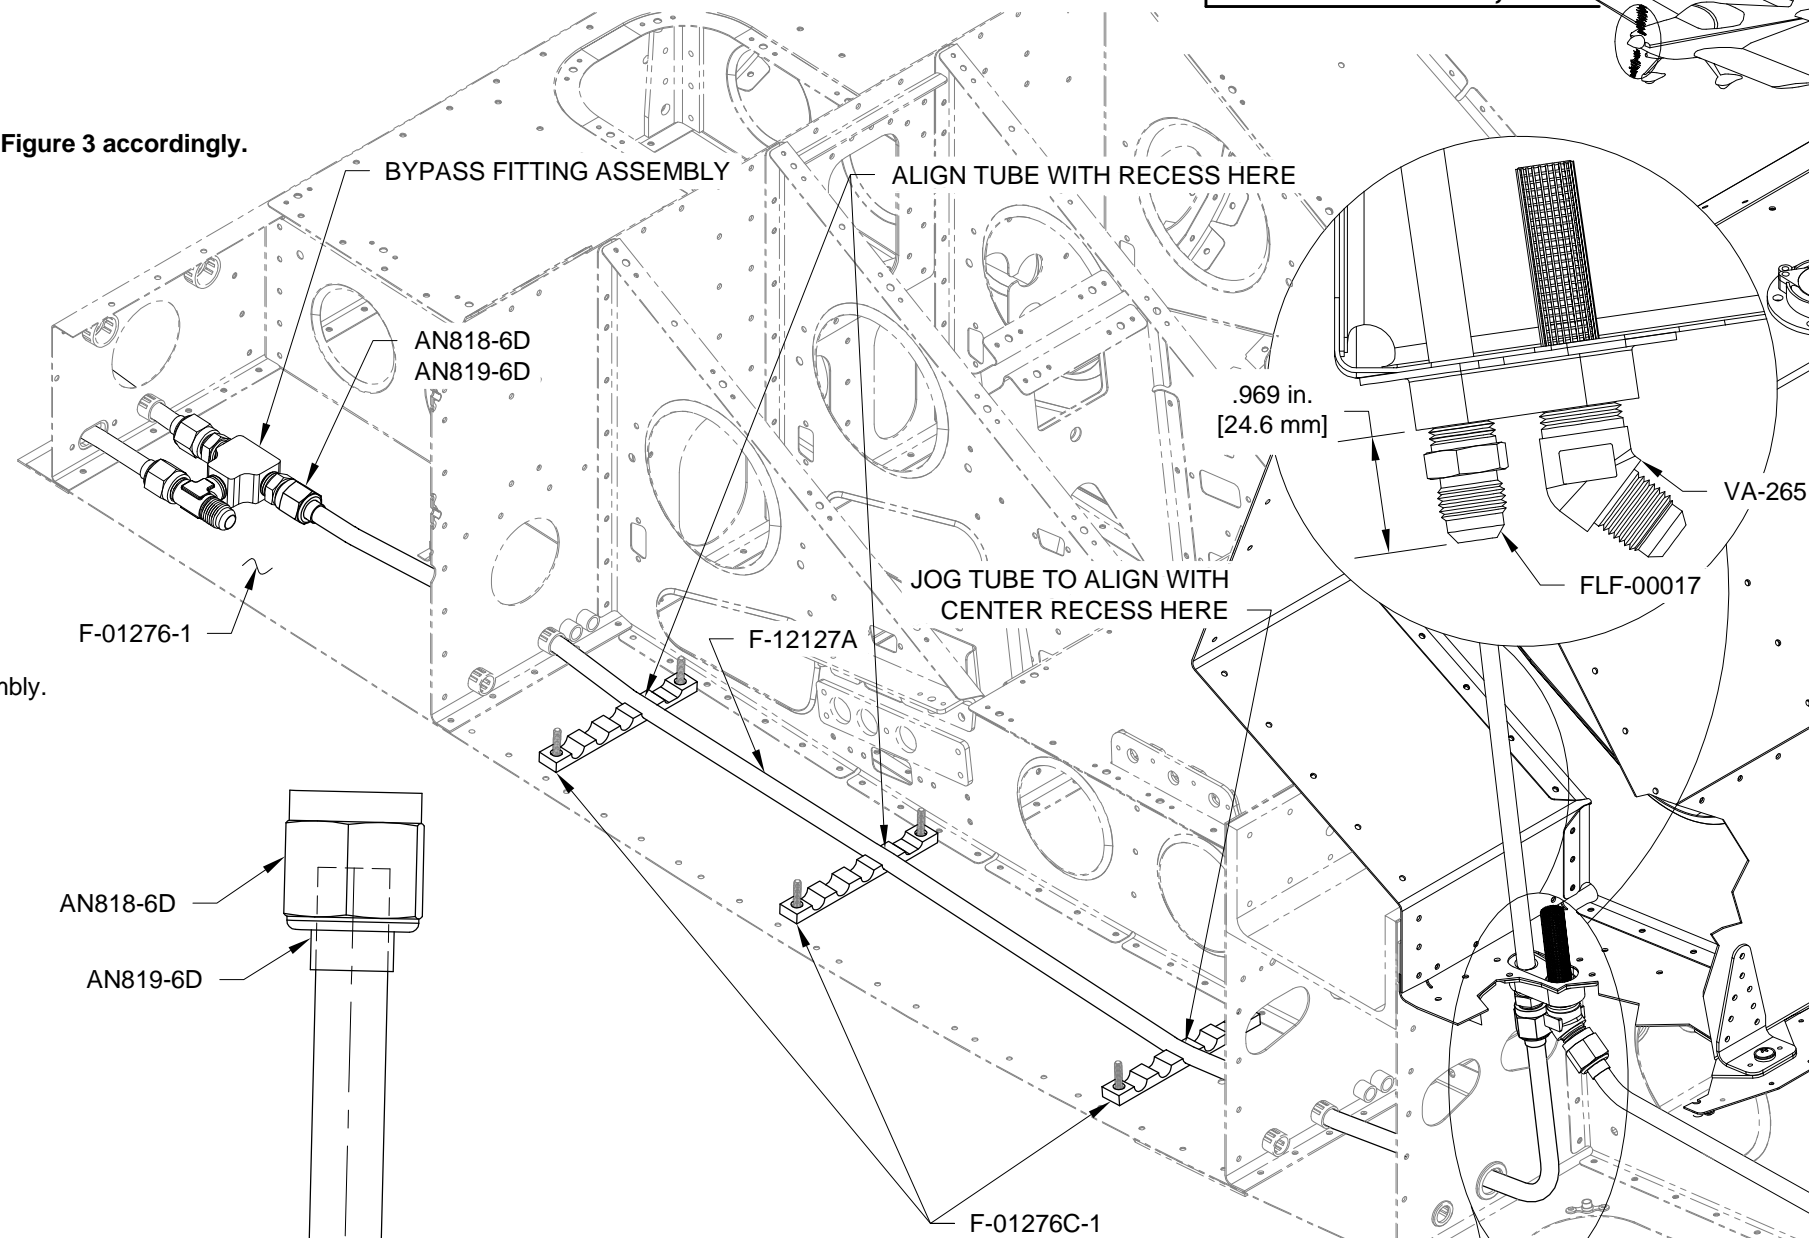

FIGURE 1: F-12127A BYPASS FITTING TO TANK FUEL LINE INSTALLATION
Step 7: Attach the F-12127A to the Bypass Fitting Assembly as shown in Figure 1.
Step 8: Reattach the F-12127A to the FLF-00017 as shown in the detail view in Figure 1. A small amount of bending/adjustment by hand is acceptable. Check for clearance at the aft most snap bushing.